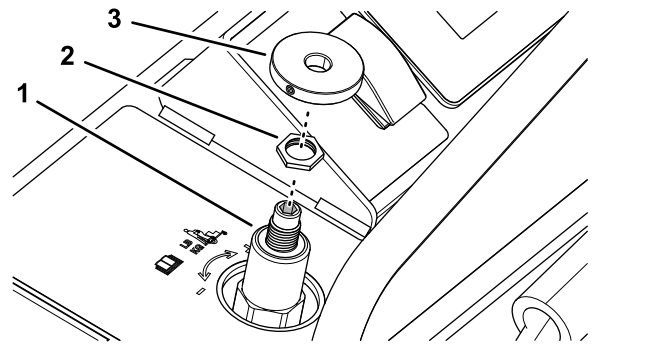

Figure 59
1. Ensure that the setscrew in the weight control knob is rotated counterclockwise enough so that the knob slips over the shaft of the weight control valve (Figure 59).
2. Ensure that the jam nut on the shaft of the weight control valve is tightened (Figure 59); refer to step 6 in Adjusting the Operator Weight Control Valve \(page 47\).
3. Assemble the knob onto the shaft of the weight control valve (Figure 59).
3. Loosen the jam nut for the weight control valve, refer to Figure 59 in Assembling the Weight Control Knob \(page 47\).